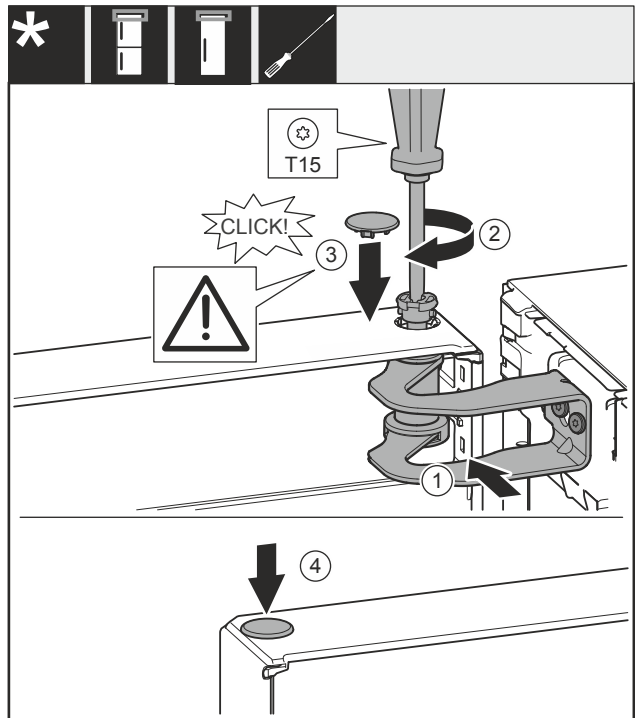

Fig. 35
- ▶ Align the door with the opening in the swap bearing block Fig. 35 (1).
- ▶ Insert the bolt Fig. 35 (2) and use screwdriver to tighten it.
- ▶ Insert the cover Fig. 35 (3).
- ▶ Check that the cover Fig. 35 (3) is resting on the door.
- ▶ Insert the cover Fig. 35 (4).